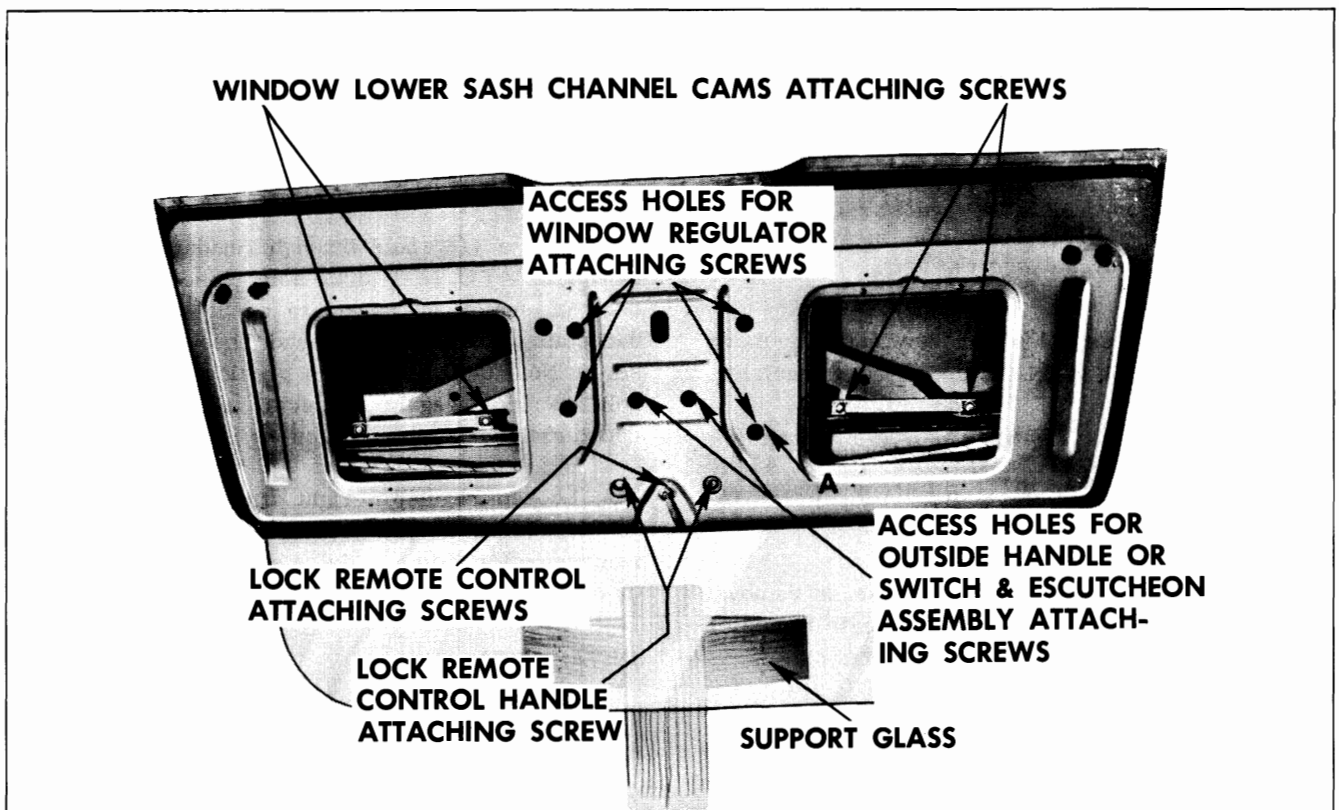

Fig. 14-19 Window Control Hardware
3. Carefully operate window upward until lower sash channel cam attaching screws are accessible through access holes; then, remove both right and left cam attaching screws (Fig. 14-19) and disengage cams from window sash channel.
3. Through access holes remove window regulator attaching screws (Fig. 14-19) and remove regulator.
*NOTE: If window is inoperative in a down position, remove inner panel left access hole cover; then remove both right and left lower sash channel cam attaching screws (Fig. 14-19) and lift window up sufficiently to gain access to regulator motor attaching screws. Prop window in up position.*
*CAUTION:* Support window during operation and while window is in out position (Fig. 14-19).
3. Through access holes (Fig. 14-19) remove outside handle attaching nuts and remove outside handle.
*CAUTION: Support window during operation and while window is in out position (Fig. 14-19).*
3. Through access holes (Fig. 14-19) remove escutcheon attaching nuts. Detach assembly from tail gate sufficiently to disconnect junction block from switch, then remove assembly and gasket from tail gate.
2. Disconnect remote control to lock connecting rods at remote control. Remove remote control inside handle attaching screw and remove handle (Fig. 14-19).
3. Remove remote control attaching screws (Fig. 14-19) and remove remote control.
1. Open tail gate. Remove inner cover panel, inner panel water deflector and access hole cover. Operate window to full up and support it in that position. Remove glass run channel attaching screws (Fig. 14-19) and remove channels.
2. Remove striker attaching screws (Fig. 14-19) and remove striker and adjusting plates from body pillar.